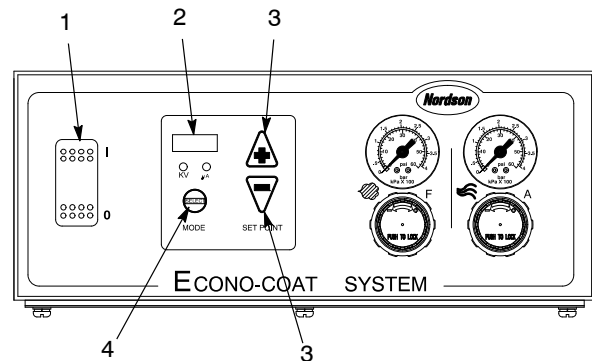

Figure 1 Limiting the kV Output
1. See Figure 1. Make sure the power switch (1) is in the off position.
2. While holding down the mode key (4), turn the power switch to the on position. A code will appear on the digital display (2), identifying the currently selected kV limit.
3. Release the mode key, then use the +/- keys (3) to select the appropriate kV limit: